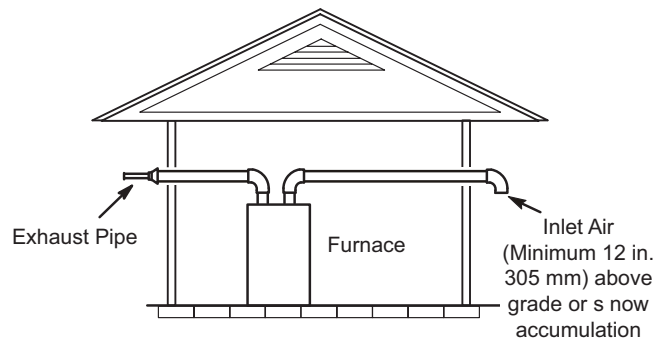
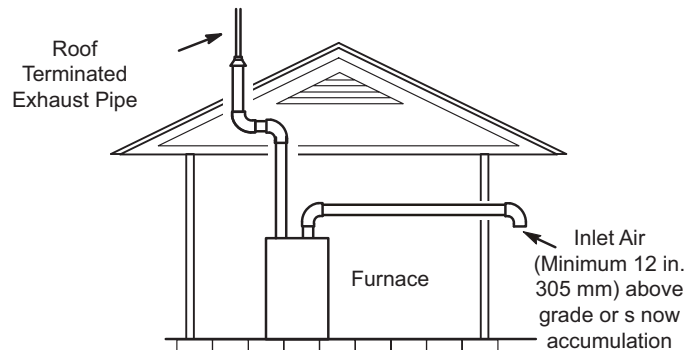

Figure 34. Exiting Exhaust and Intake Vent (different pressure zone)
Figure 35. Exiting Exhaust and Intake Vent (different pressure zone)
- 1 - Intake and exhaust terminations are not required to be in the same pressure zone. You may exit the intake on one side of the structure and the exhaust on another side (**Figure 34**). You may exit the exhaust out the roof and the intake out the side of the structure (**Figure 35**).